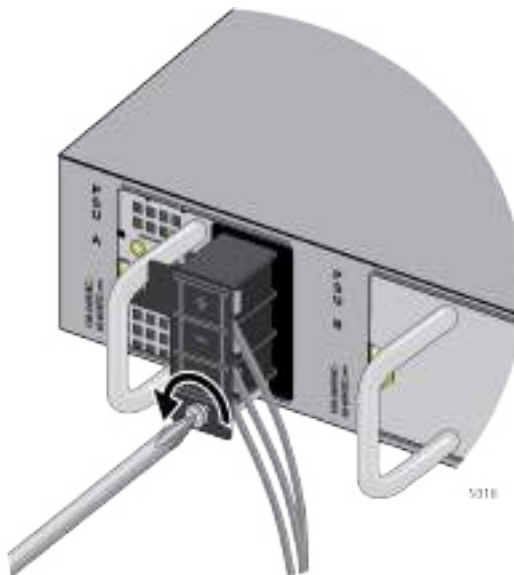

Figure 147. Loosening the Screw for the Panel
3. Loosen the screw for the connector panel with a Phillips-head screwdriver. Refer to Figure 147.